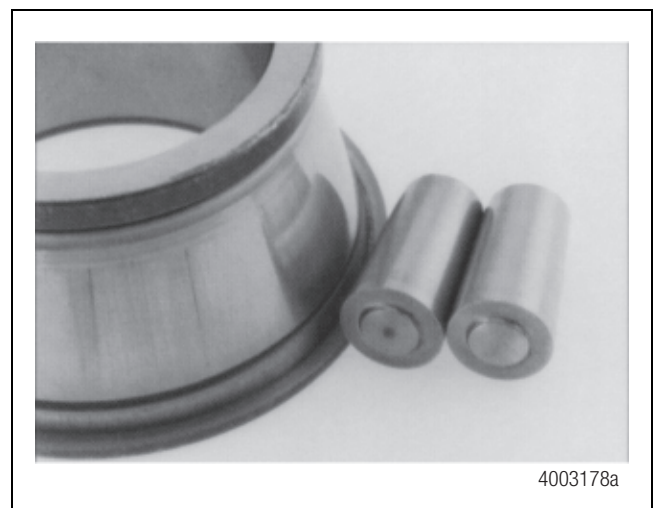

Figure 4.5
- A. The roller ends are worn. Figure 4.5.